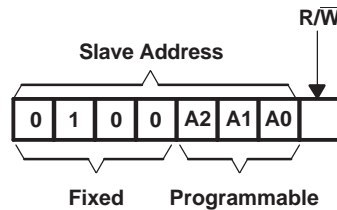
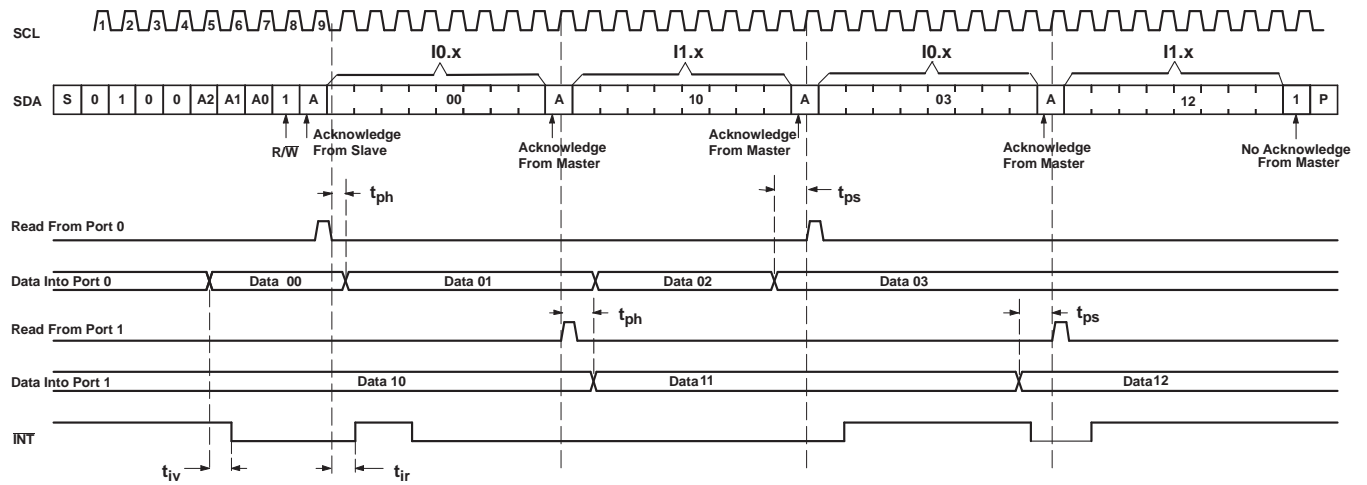

Figure 5. TCA9535 Address
**Figure 9. Read From Register**
Figure 5 shows the address byte of the TCA9535.
Data is transmitted to the TCA9535 by sending the device address and setting the least-significant bit to a logic 0 (see Figure 5 for device address). The command byte is sent after the address and determines which register receives the data that follows the command byte.
The bus master first must send the TCA9535 address with the least-significant bit set to a logic 0 (see Figure 5 for device address). The command byte is sent after the address and determines which register is accessed. After a restart, the device address is sent again, but this time, the least-significant bit is set to a logic 1. Data from the register defined by the command byte then is sent by the TCA9535 (see Figure 9 through Figure 11).
- B. This figure eliminates the command byte transfer, a restart, and slave address call between the initial slave address call and actual data transfer from P port (see Figure 9 for these details).